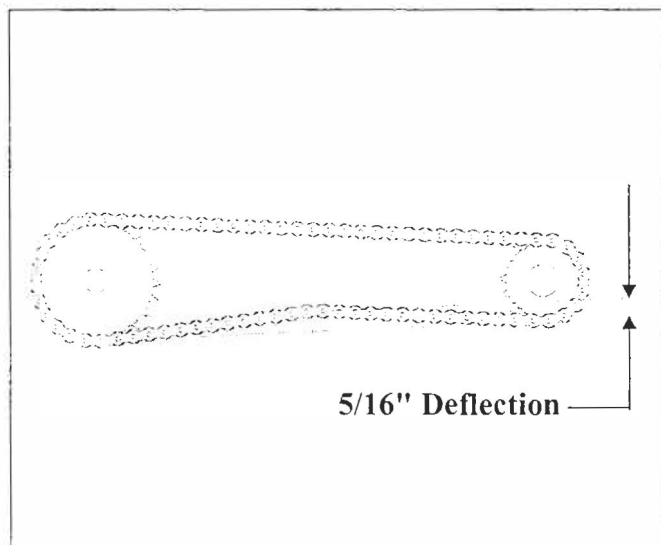

Figure 11
5. To adjust roller chain tension, loosen the spinner shaft bearing bolts and move the spinner shaft away from the gear case. Correct chain tension allows a 5/16" deflection midway between the sprockets. See Figure 11.